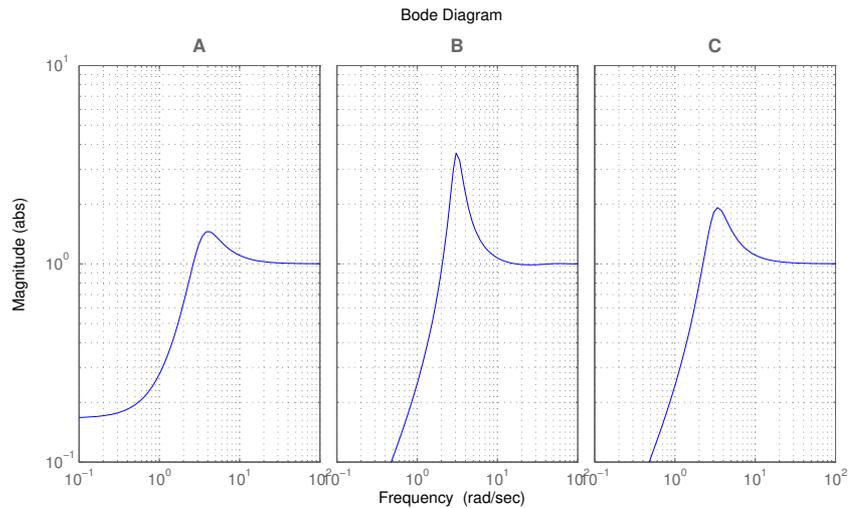

Figure 2.5 Sensitivity functions for Problem 2.5.
- a. Figure 2.5 shows sensitivity functions, corresponding to the three different control designs  $C_1 - C_3$ . Combine the controllers  $C_1 - C_3$  with the sensitivity functions  $A - C$ .